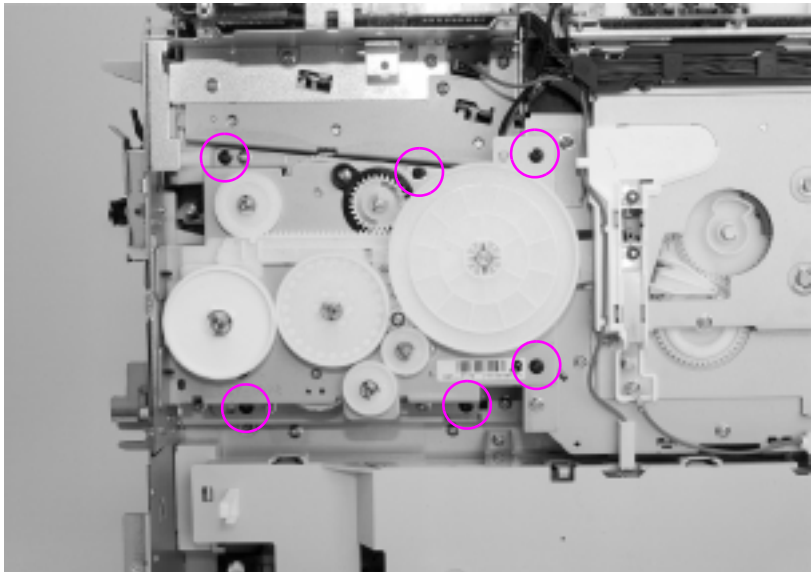

Figure 6-32 Drum drive assembly removal and replacement (2 of 3)
- 7 Remove the eight black screws from the drum drive assembly shown in Figures 6-32 and 6-33.